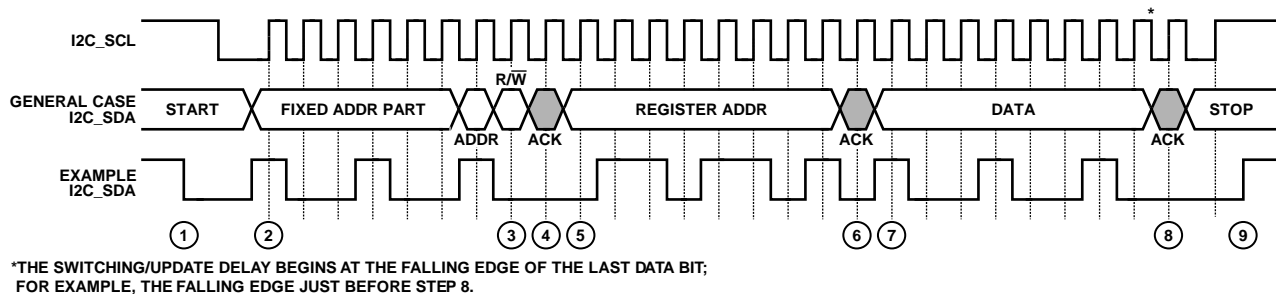

Figure 32. I²C Write Procedure
To write data to the ADV3002 register set, an I²C master (such as a microcontroller) needs to send the appropriate control signals to the ADV3002 slave device. The signals are controlled by the I²C master, unless otherwise specified. For a diagram of the procedure, see Figure 32. The steps for a write procedure are as follows:
- Send the write indicator bit (0).
- Send a stop condition (while holding the I2C_SCL line high and pulling the I2C_SDA line high) and release control of the bus to end the transaction (shown in Figure 32).